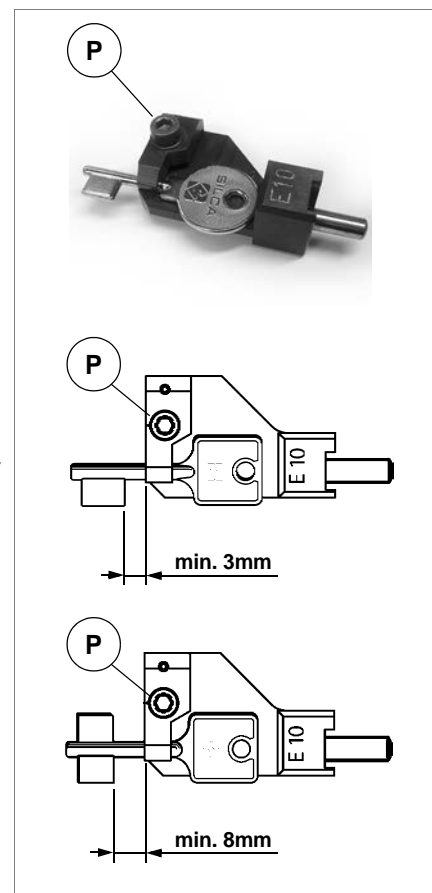

Fig. 77
- 4) Fit the key blank into the adapter E10, taking care to position it properly (fig. 77); tighten the (P) screw.
For single bit keys the distance between the adapter and the end of the bit should be at least 2-3 mm (fig. 77). For double bit keys the distance between the adapter and the end of the bit should be at least 8 mm (fig. 77). If these measurements are not observed the display will show an error: "ERROR 17 Adapter not properly fitted".